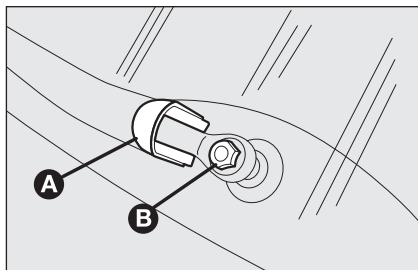

fig. 13
- ☐ raise the cover **A-fig. 13** and remove the arm from the car, slackening the nut **B** that fastens it to the pivot pin;